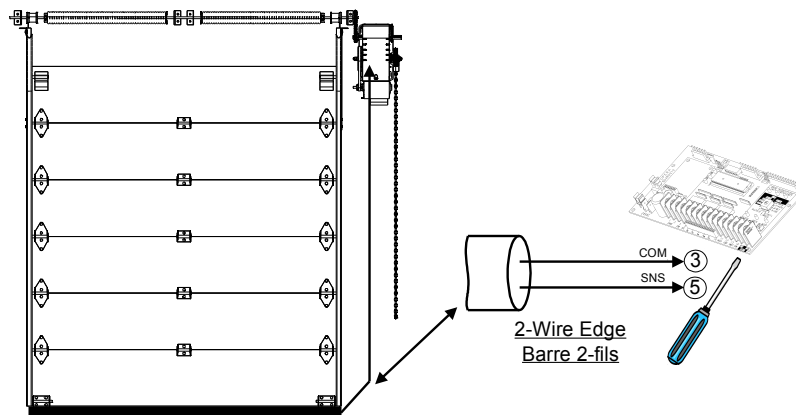

Figure 34 - Electric Reversing Edge
3. Use a coil cord or take-up reel to connect the sensing edge wires to the operator terminals. Install electric wires according to Figure 34.